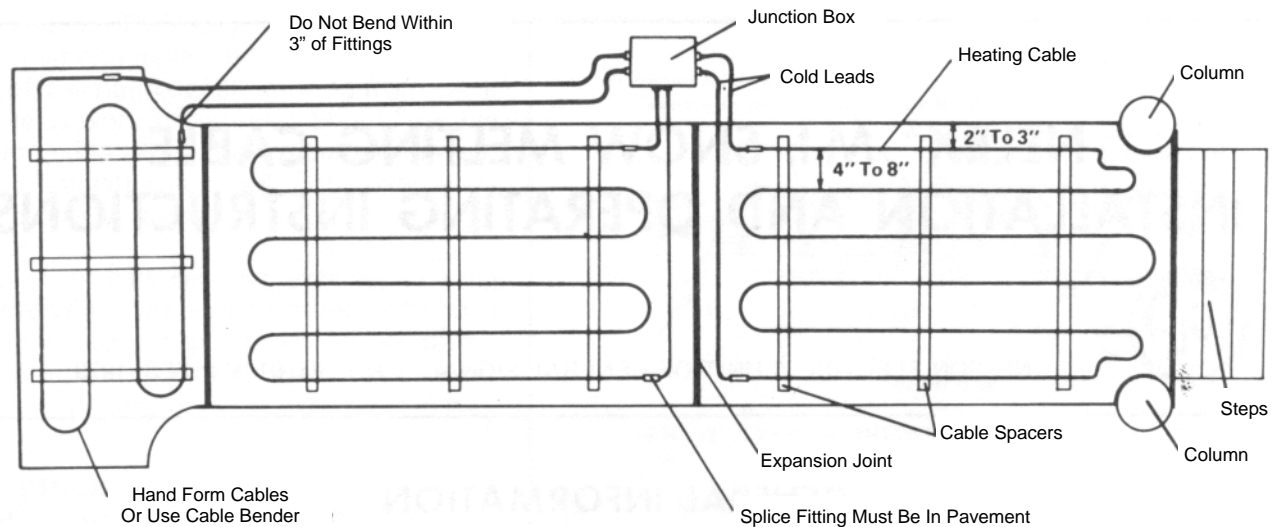

FIG. 1 TYPICAL SNOW MELTING SYSTEM
4. Expansion joints must be provided for larger areas and for changes in slab thickness at curbs, walls, columns, steps, hydrants, lighting standards, manholes, etc. Scribed or control joints should be treated as expansion joints. (See Fig. 1.)